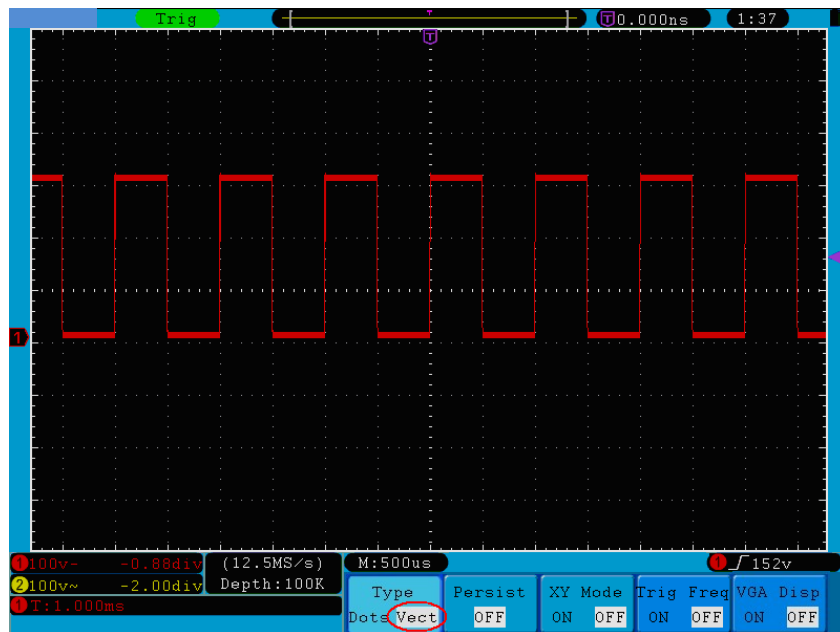
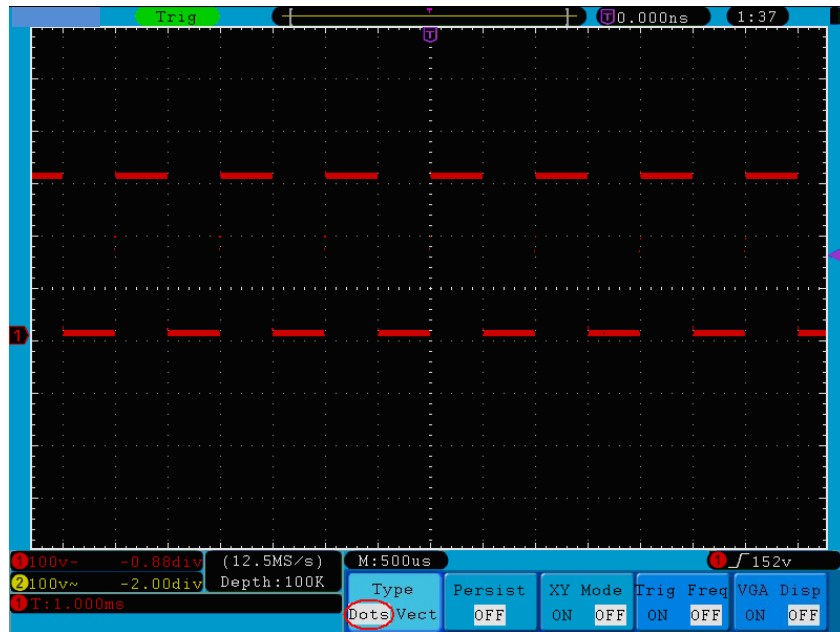

Figure 5-31 Display in the Vector Form
Figure 5-32 Display in Dots form
**Display Type:** With the **F1** menu selection button pushed down, you can shift between **Vect** and **Dots** types. The differences between the two display types can be observed through the comparison between *Figure 5-31* and *Figure 5-32*.